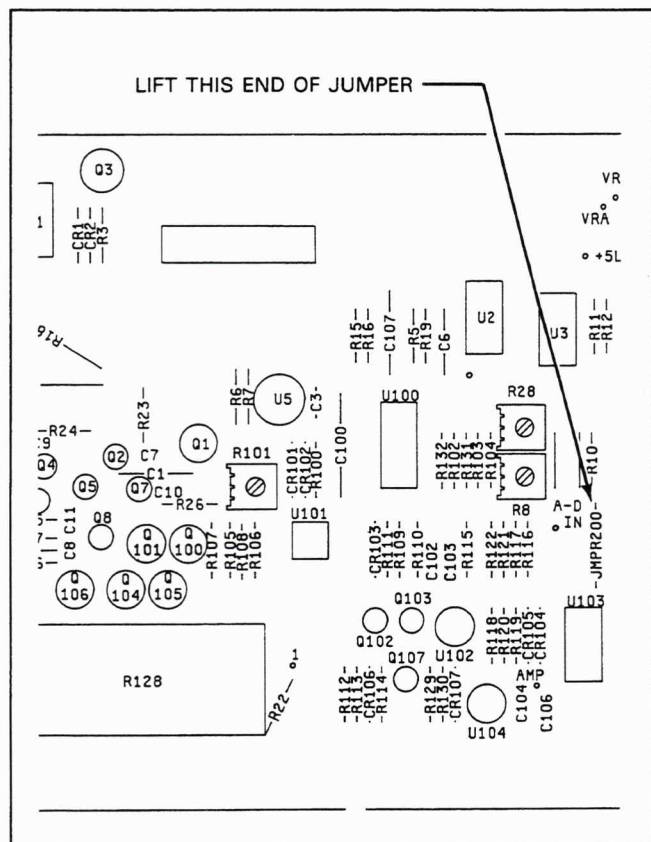

Figure 8-C-1. Jumper JMPR200 Lifted
f. If the reading on the test voltmeter is an overload, floating, constant zero, or noisy reading, unsolder and lift one end of jumper JMPR200. Lift the end of the jumper that is toward the top of the printed circuit board, as shown in Figure 8-C-1. The A/D Converter should now be disconnected from the input amplifier.